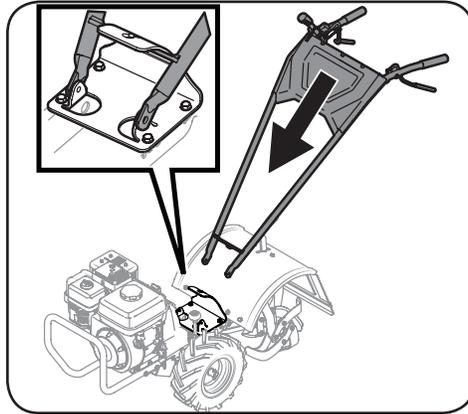

Figure 3-2
3. Gently lift the handlebar (do not overstretch the attached cables) and place the handlebar cross-brace in front of the curved height adjustment bracket. See Figure 3-2.
4. With the forward clutch cable on the inside of the handlebar, position the handlebar ends on the outside of the two mounting tabs atop the transmission cover. See inset in Figure 3-2.